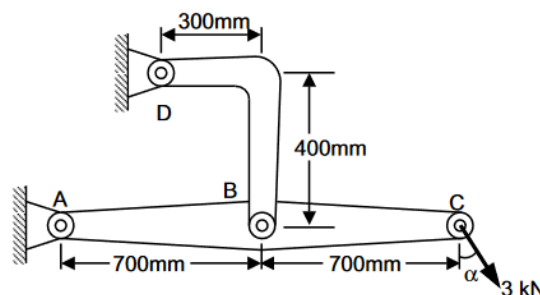

Figure. 1
- Figure 1 shows a frame in which the structural members support the 5 kN load. The load may be applied at any angle α (-90° to $+90^\circ$). The pins at A and B need to be designed to support the maximum force transmitted to them. Write a MATLAB program to plot the forces at A and B as a function of α and find their maximum values and corresponding angles α .